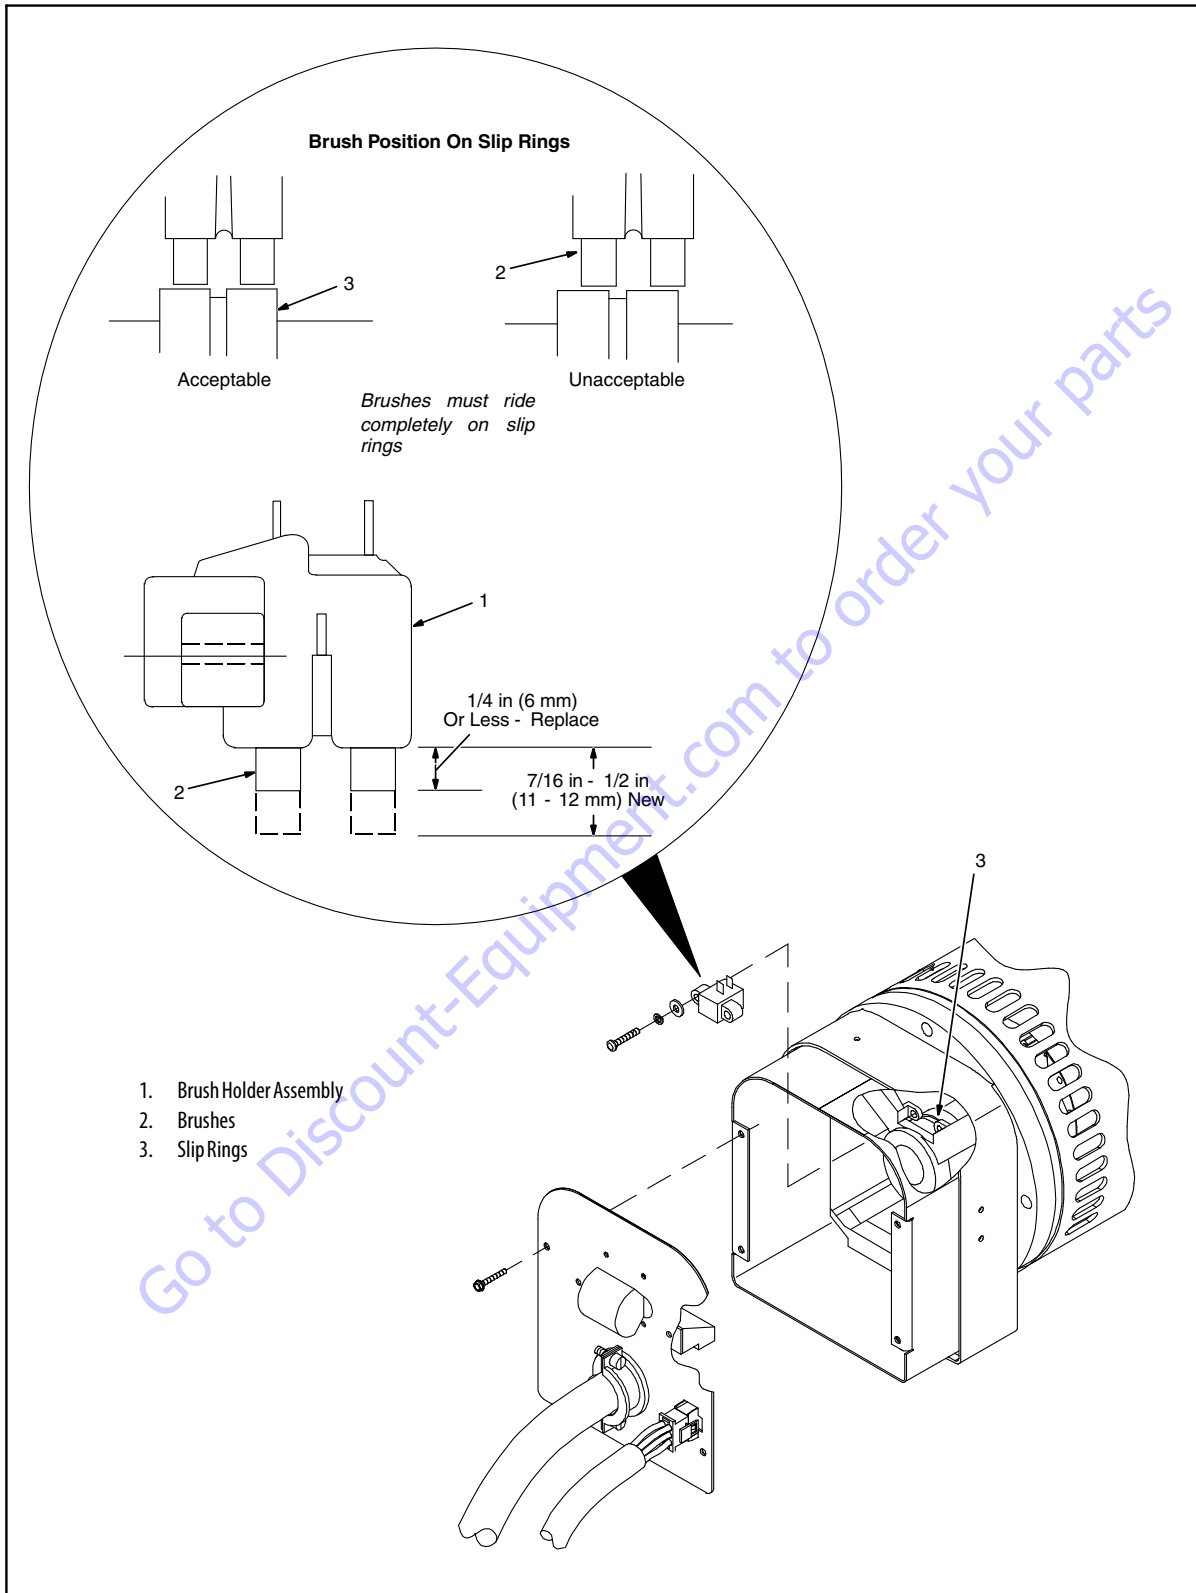

Figure 3-52. Inspecting Generator Brushes, Replacing Brushes, and Cleaning Slip Rings
*Refer to Figure 3-52., Inspecting Generator Brushes, Replacing Brushes, and Cleaning Slip Rings.*